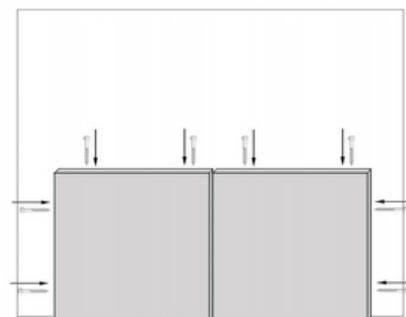

Figure 14
- Next, prepare the panel for installation by drilling two (2) pilot holes and countersinking them on the top of both sides. The holes should be located approximately 1" from the back edge of the panel and must line up with the 2 x 2 backers on wall. It is important to countersink pilot holes so that the screw heads remain slightly below the surface of the panel. (Figure 14).